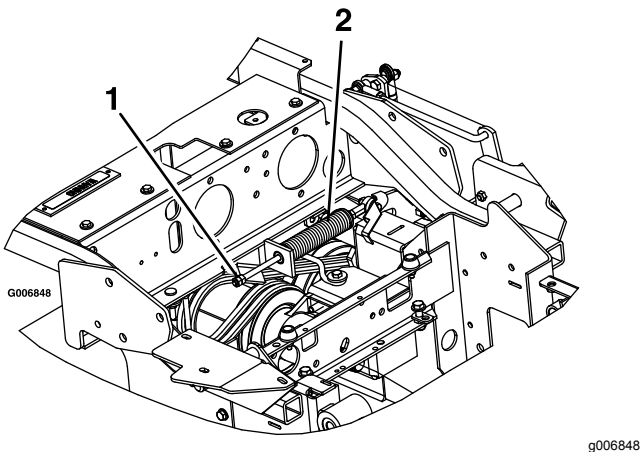

Figure 68
3. Locate the brake spring and thread the 2 jam nuts out to the end of the brake-spring rod (Figure 68).